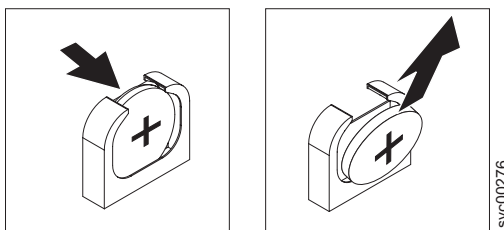

Figure 130. SAN Volume Controller 2145-CG8 or 2145-CF8 CMOS battery holder
8. Remove the CMOS battery, as shown in Figure 130: